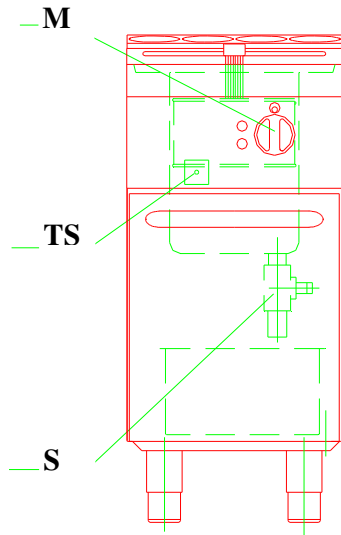

Fig.1 - Abb.1
the temperature to the MINIMUM (turn the knob M of the fig. 1 to the position corresponding to the minimum temperature). Never exceed the maximum level of oil marked inside the basin.
6.3 Use of the fryer (fig. 1)
Any basin of these fryers is equipped with a control knob **M** (fig.1) of the control thermostat/main switch, with a green LED indicating "current on" and with a yellow LED indicating "heating enabled".
-Disconnect the heating, turning the knob **M** (fig. 1) to **0**: the green and yellow LEDs will get off.
-In case of any fault, stop the equipment operation turning all the knobs **M** (fig. 1) to **0**.
-The oil drain cock **S** (fig. 1) - one cock per basin - is installed inside the compartment under the cooking basins, in a safe position so that it cannot accidentally be opened during the operation.